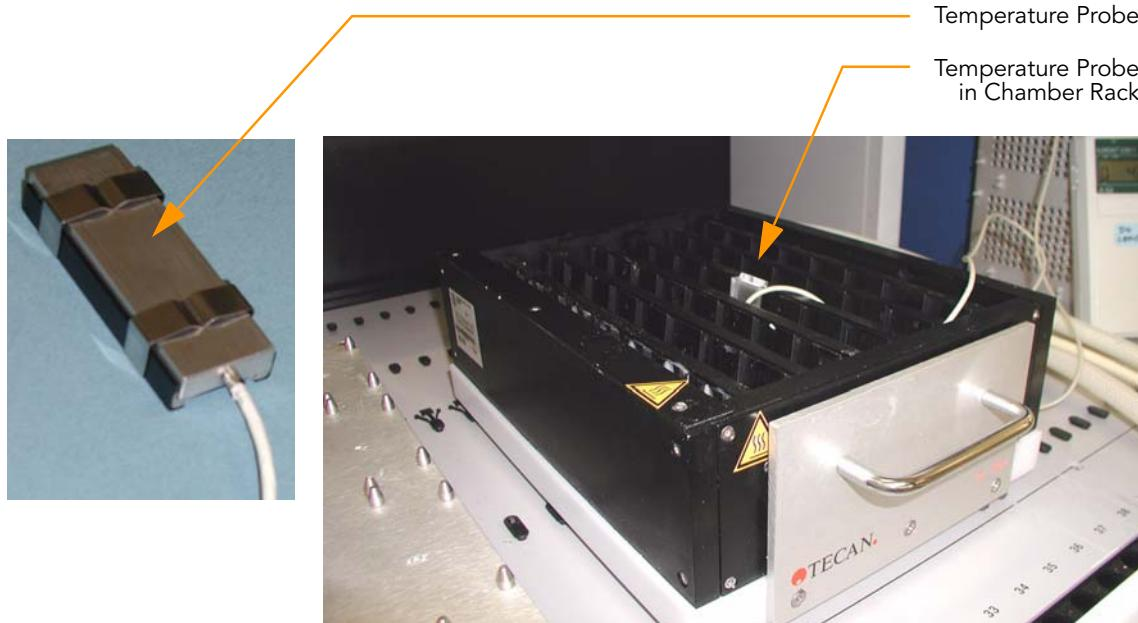

Figure 56 Illumina Temperature Probe in Chamber Rack
5. Use the Illumina Temperature Probe in several locations to ensure that the Chamber Rack is at 44°C (Figure 56).